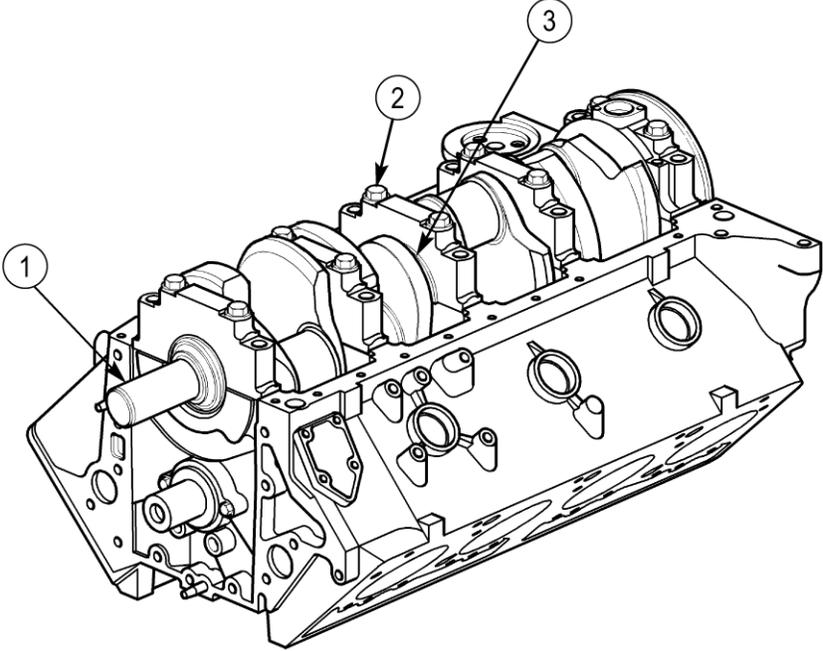

Figure 3
7. Tap crankshaft (1) rearward, then forward; this will align crankshaft bearing and crankshaft thrust surface as shown in figure 3. Tighten ten inner 12 mm capscrews (2) to 55 lb-ft (75 N•m).
8. With crankshaft (1) forced forward and held in place, measure end play at front end of the number three bearing (3) with a feeler gauge. End play should be 0.004-0.010 in. (0.102-0.250 mm) as shown in figure 3.